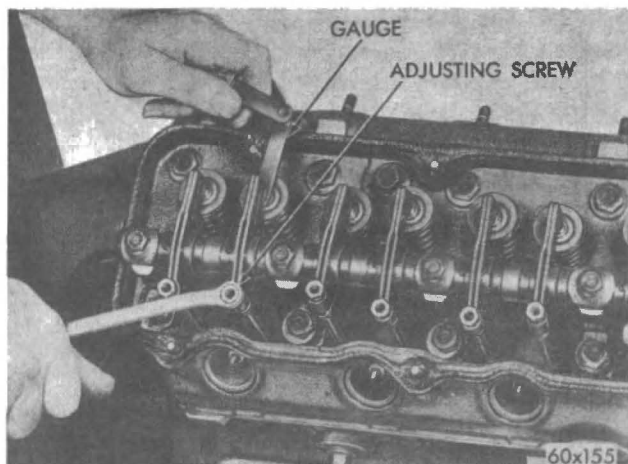

Fig. 9 - Adjusting tappets.
(7) Install intake and exhaust manifold and carburettor assembly to cylinder head with the cup side of conical washers against manifolds. Tighten nuts to 10 lbs./ft.
(8) Tighten three bolts holding the intake manifold to the exhaust manifold to 15 lbs./ft.
(9) Connect the heater hose and by-pass hose clamp.
(10) Connect the heat indicator sending unit wire, the accelerator linkage and spark plug wires.
(11) Install the vacuum control tube from carburettor to distributor.
(12) Connect the exhaust pipe to exhaust manifold flange.
(13) Install the fuel line and carburettor air cleaner.
(14) Fill the cooling system.
(15) Operate the engine until normal operating temperature is reached (approximately 180° F water temperature).
(16) Allow the engine to idle at 550 r.p.m. at a temperature of 180° F for 5 minutes.
(17) Adjust intake valve clearance to .010" and exhaust valve clearance to .020" (refer Fig. 9).